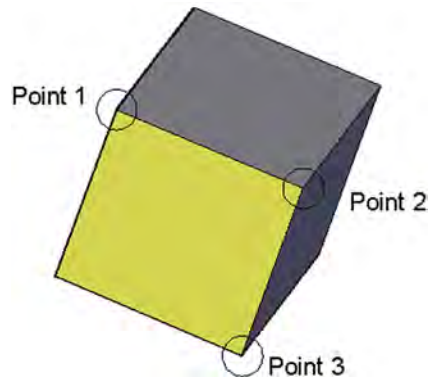

FIGURE 25.11
Step 3. Here, you need to click on and choose three consecutive source points on Block 2's face that you want used as points of attachment to Block 1. Several combinations are possible, so let us arbitrarily choose the points shown in Figure 25.11. As you select these three points,